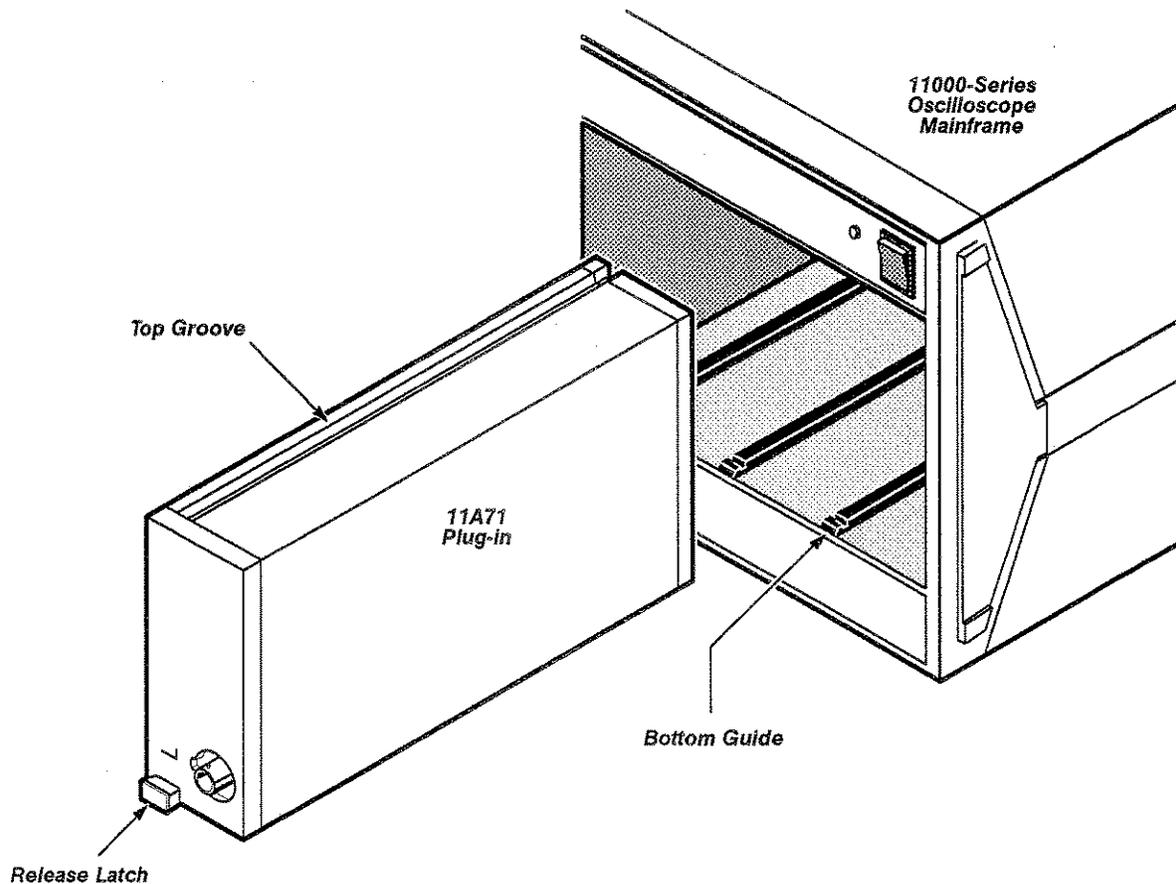

Figure 1-1 — Installing the 11A71 Amplifier in a Mainframe
2. Pull the release latch (see Fig. 1-1) to disengage the amplifier from the mainframe.